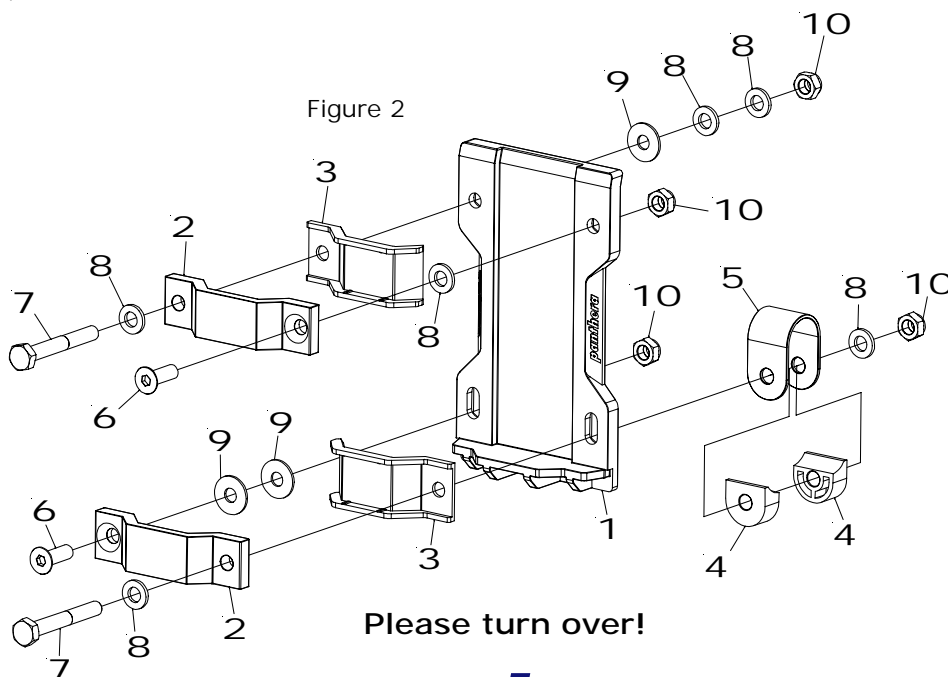

Figure 2
4. Assemble the mountings separately as shown in figure 2.
Details in the enlarged diagram (Figure 2)